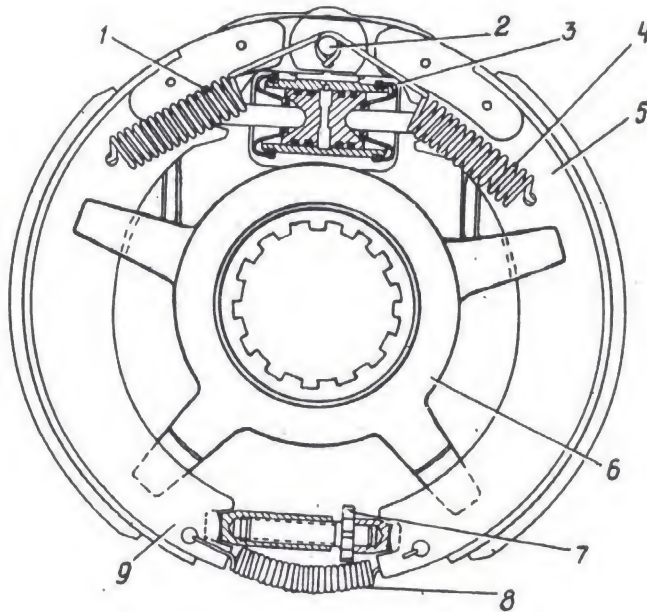

FIG. 48. WHEEL BRAKE
To increase braking torque the servobrake principle is employed in these brakes. Owing to the symmetry of the brake shoes provided by the design, the servobrake may be used for reverse running as well. Brake shoes 9 and 5 (Fig. 48) are pressed to anchor pin 2 by springs 1 and 4. The lower ends of the brake shoes are pressed by spring 8 to the adjusting device which receives adjusting screw 7 provided with a sprocket. Spring 8 holds the sprocket against revolution.
2. Use adjusting screw 7 (Fig. 48) to bring apart the brake shoes until they contact the brake drum.